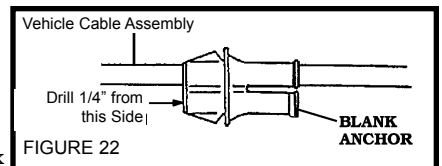

FIGURE 22
- b. This anchor is hollow except at one end. Use a **6.4mm (.25")** bit drill as shown in **Figure 22**.